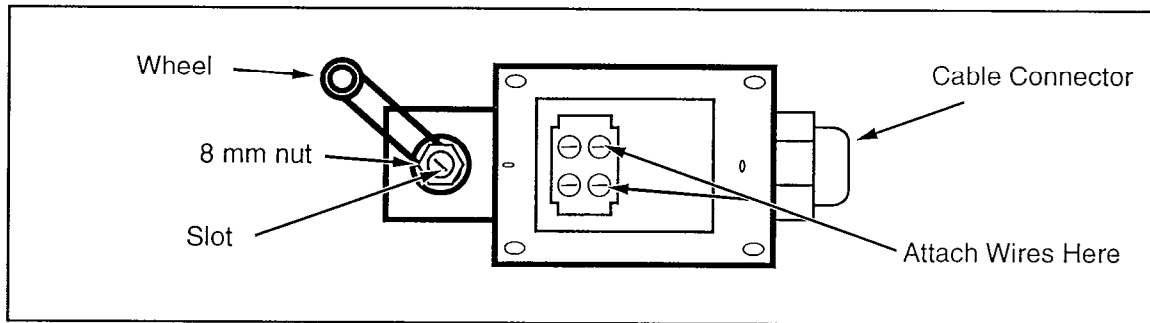

Figure 2
1. Attach the two wire terminals onto the bottom two contacts on the TI-U12-ATT outrigger limit switch, contacts 23 and 24 (fig. 2).
11. Adjust shaft on 4th switch using a small screwdriver in the slot turning away from the outrigger until the outrigger alarm stops, while keeping the wheel of the limit switch tight against the end of the cylinder (fig. 2).
12. Tighten 8mm nut on limit switch (fig. 2).